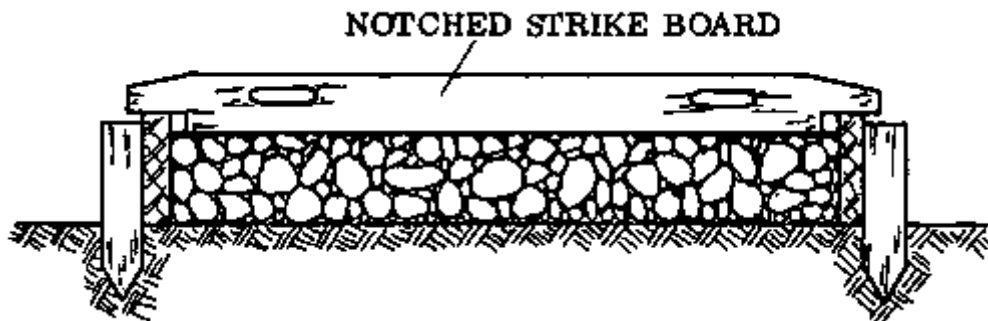

Fig. 3
k. Use the notched strike board (Fig. 3) to level the surface by gently tamping until the layer is screed-thickness below the top of the edge boards.